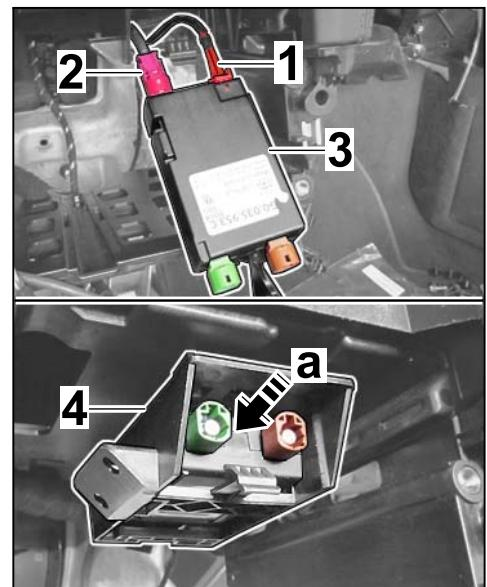

Figure 25
4.5.2 Push USB/iPod control unit into the USB/iPod control unit holder ⇒ *Figure 25-4-* (⇒ *Figure 25-a-*) until the USB/iPod control unit engages securely.